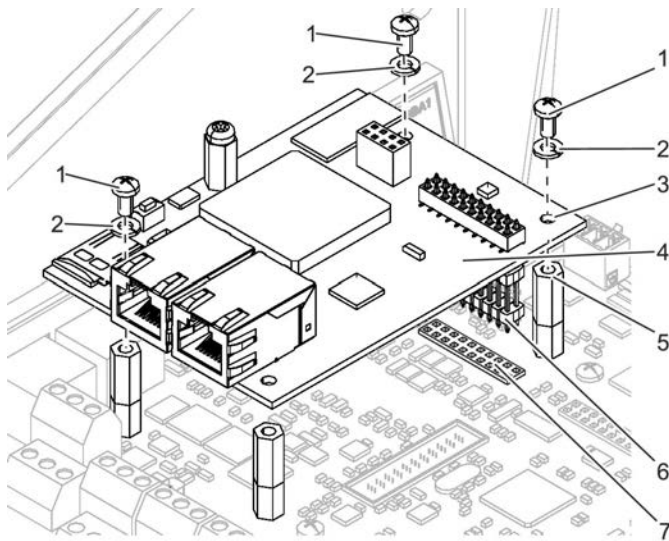

Fig. 51: Installing EM-IP
2. ▶ Place EM-IP (Fig. 51/4) with the pin header (Fig. 51/6) in the slot (Fig. 51/7) on the TCU3 or TAM main PCB.
Gently push the four corners of EM-IP onto the distance pieces (Fig. 51/5).
3. ▶ Screw-fix EM-IP with 3 fixing screws (Fig. 51/1) and washers (Fig. 51/2) to the main PCB as shown in Fig. 51.